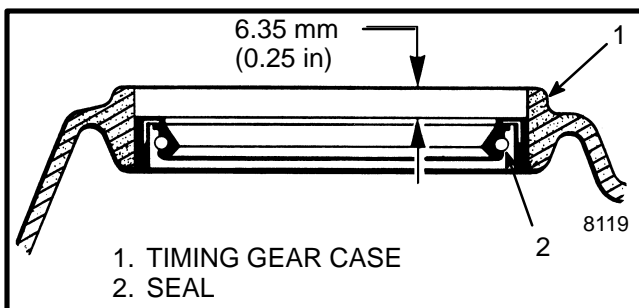

FIGURE 15. CRANKSHAFT SEAL FOR TIMING GEAR CASE
8. Install a new seal in the cover for the timing gear case. Press the seal in from the front until the seal is 9.73 to 9.97 mm (0.38 to 0.39 in) from the front face of the cover. See FIGURE 15.